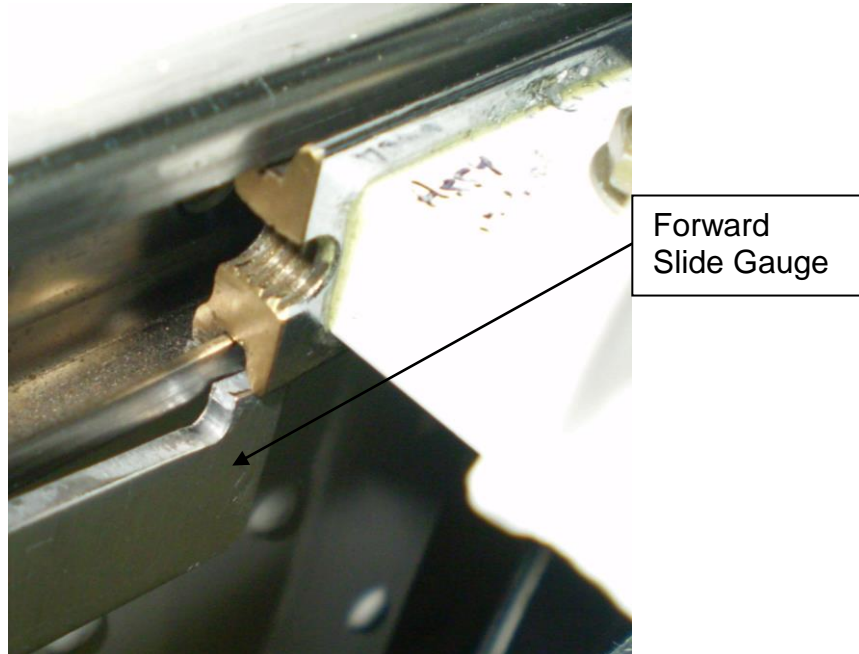

Figure 5: Checking with the Forward Slide Gauge (all four corners require checking)
2. Try to insert the Forward Slide Gauge (Item 8, Table 2) between the slider and the track as shown in Figure 5 and Figure 6 below. Standard Feeler gauges made up to 0.098" (0.023"+0.024"+0.025"+0.026") may also be used.